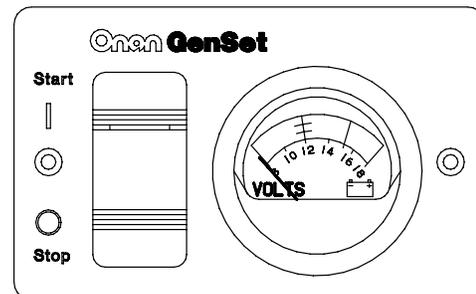

FIGURE 14. REMOTE SWITCH / DC VOLTMETER
- Remote start/stop switch with indicator lamp and DC voltmeter (Figure 14).